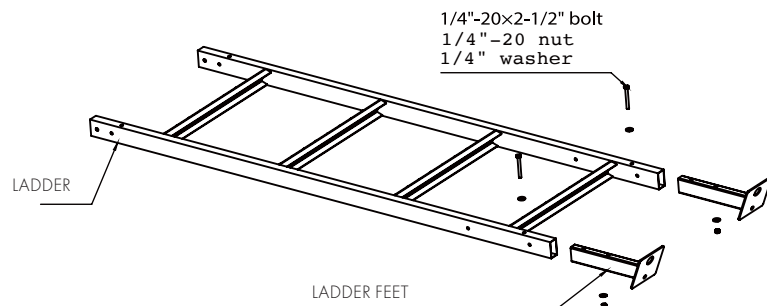

FIGURE 12
Attach the one **LADDER (#15)** to the two **LADDER FEET (#16)** by using (2) 1/4"-20 x 2-1/2" bolts, (2) 1/4" lock nuts and (4) 1/4" flat washers (Figure 12). **Be sure to not over tighten.**